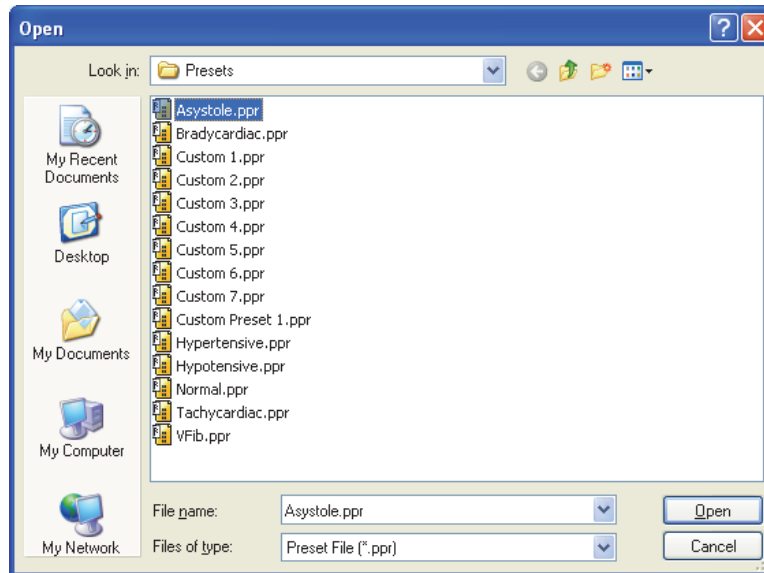

Figure 5-22. Build Presets Window
1. Click **Modify** to open the window shown in Figure 5-22.